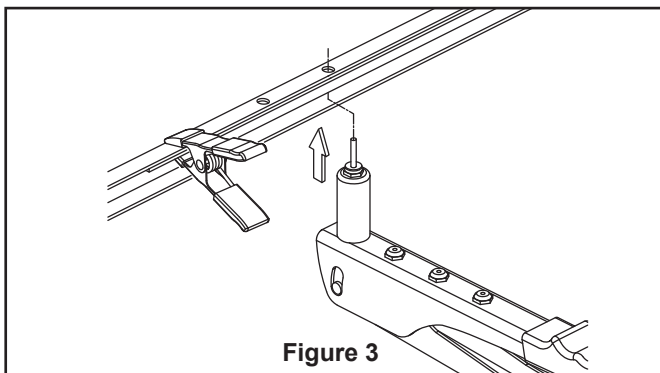

Figure 3
3. Using the rivets, rivet washers, and the rivet tool provided, install two rivets. The fl at head of the rivet must be on the inside of the belt (the side touching the pulley), while the rivet washer is placed on the outside of the belt. (Figures 3, 4, & 5)